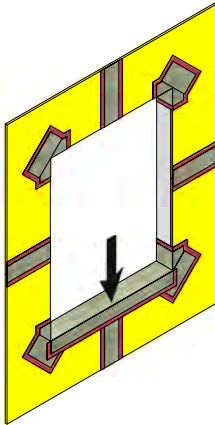

Figure 25
6. Cut WS FLASH to desired size. Remove release film immediately before application. Using a roller firmly press the WS FLASH onto the surface, keeping the membrane smooth. Begin by treating the sill first, the jambs second, followed by the head. (See Figures 25,26,27)